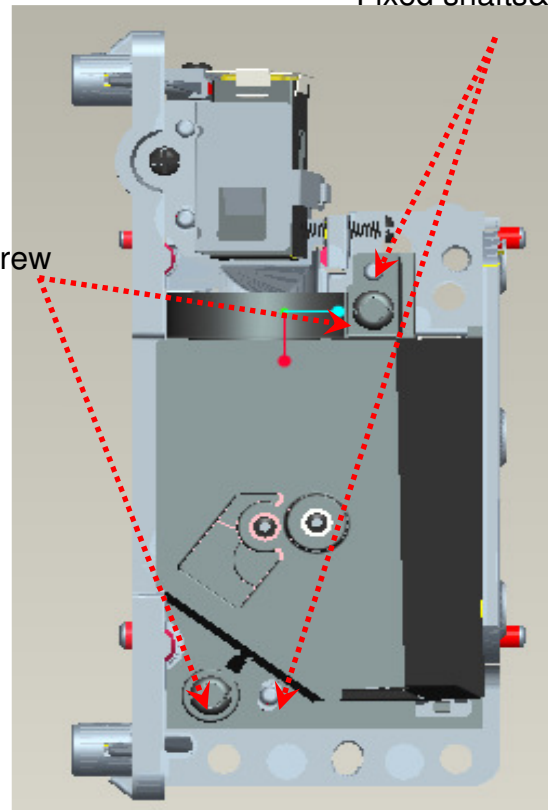

Fig. 4-2
4.2 To assemble “HSG ILL SUB Module” with “HSG DMD” and cover over on “AL” and the then lock with screws(Fig. 4-2).